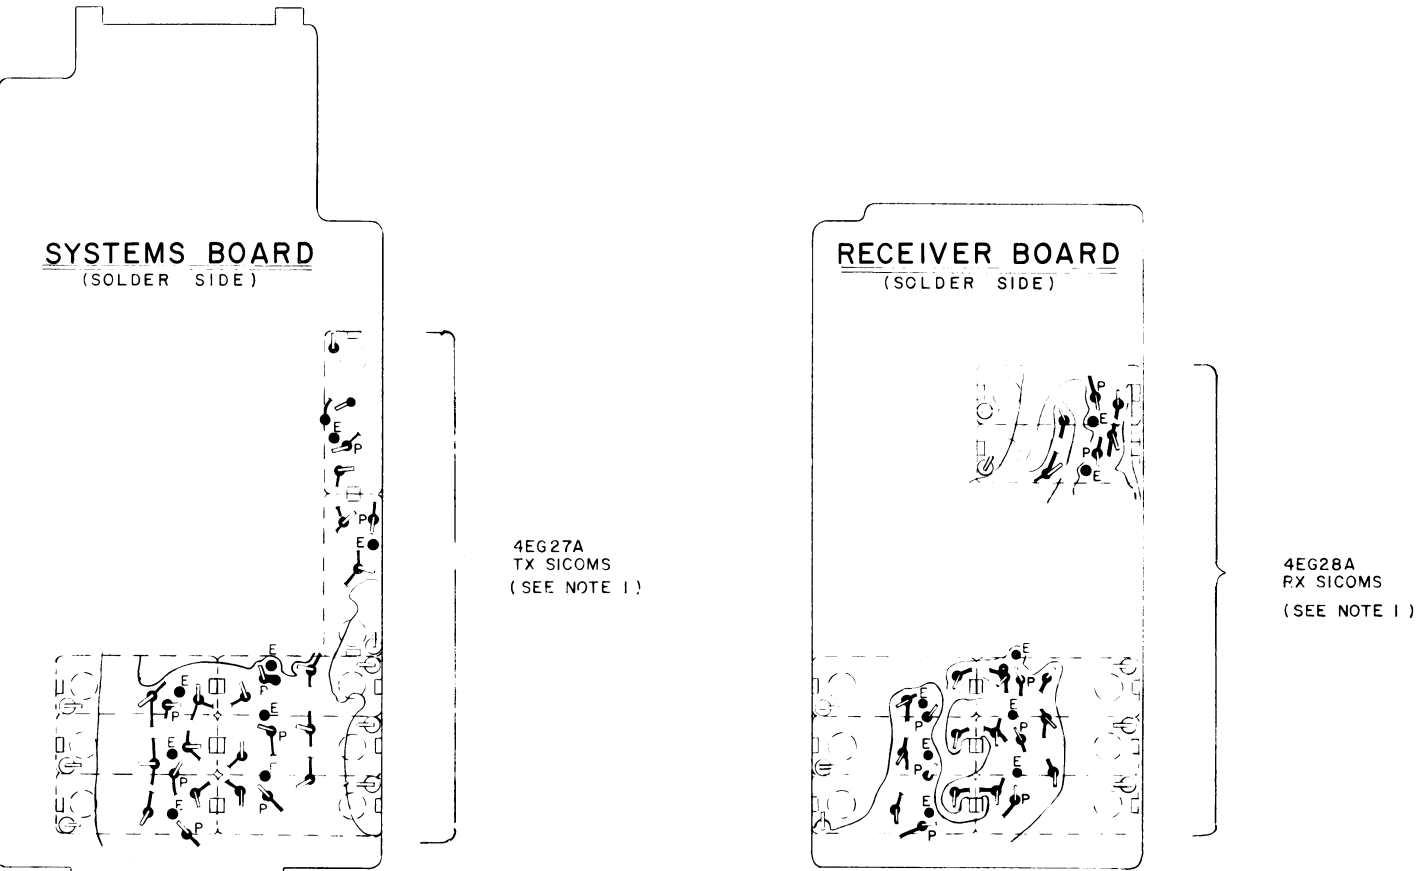
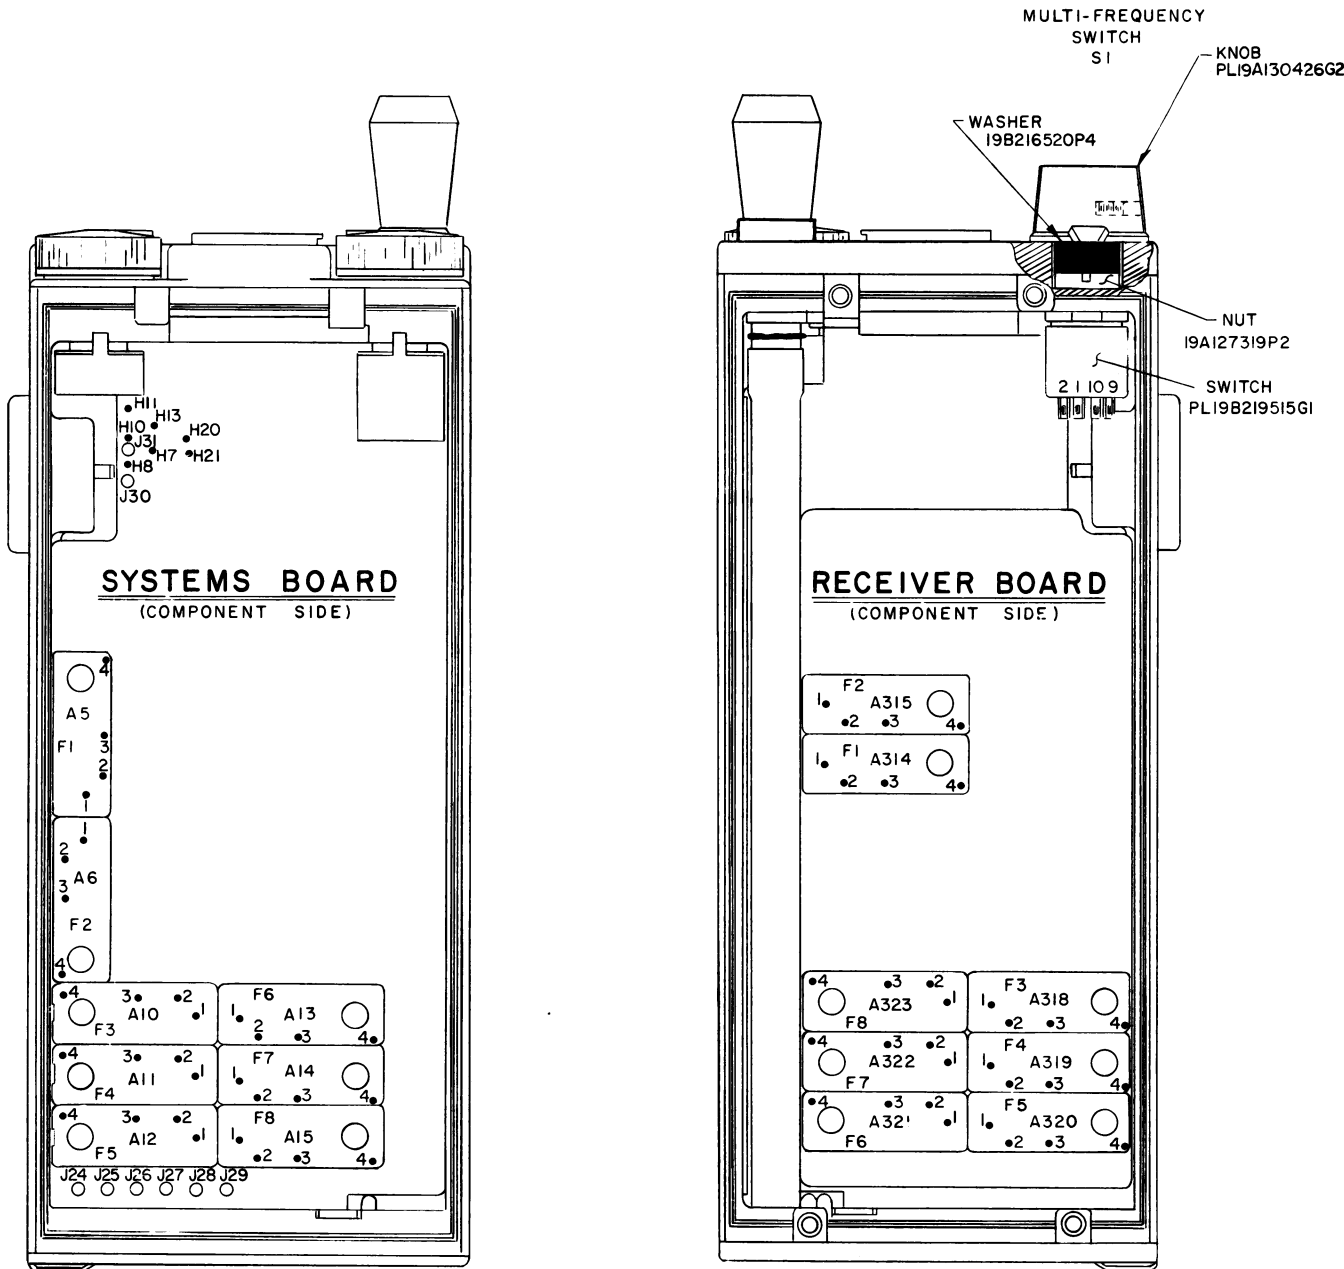

Figure 2 - Oscillator Module and Diode Installation
Figure 3 - Oscillator Mounting Positions & S1 Connection Points
1. After completing the stop post adjustment, connect the leads from multi-frequency switch S1 as shown in the following chart (see Figure 3 for connection points). Tape back all unused leads.
2. Place the oscillator module(s) in the proper holes (see Figure 3). Then bend over tabs on the can and solder to the adjacent pads (see Figure 2).
3. Bend the leads of the oscillator module as shown in Figure 2 (or appropriate Outline Diagram) and solder to the adjacent pads.